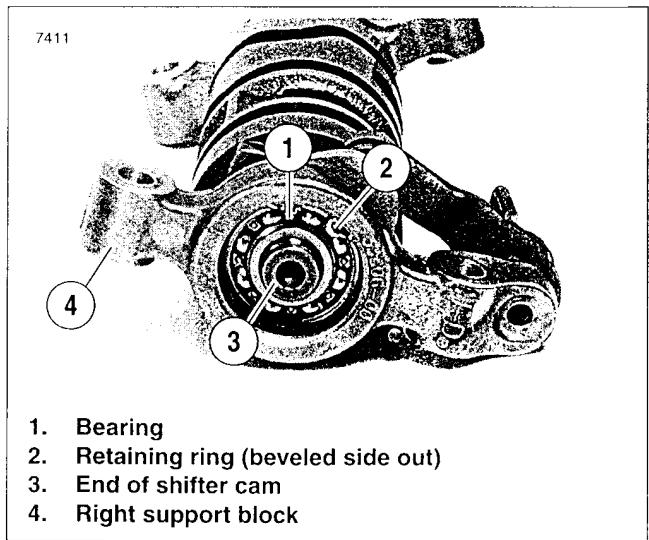

Figure 7-8. Right Support Block
- c. Place assembly on shifter cam and install a new small retaining ring (2).
- d. See Figure 7-8. Place a bearing (1) inside right support block by pressing on the side of the bearing with letters stamped on it. This side should face out. Secure bearing by installing a new retaining ring (2) with the beveled side facing out. Slip right support block over shifter cam.